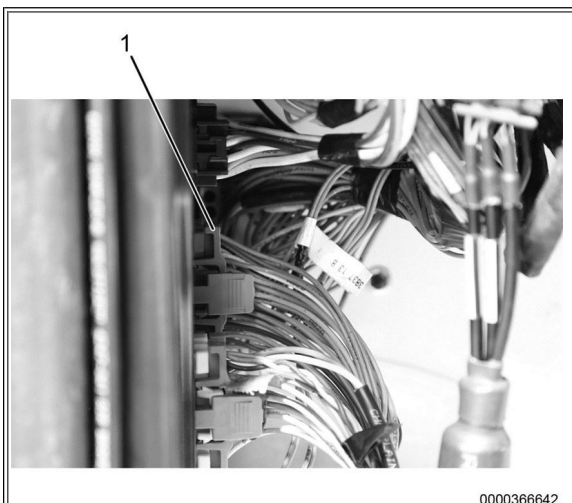

Figure 3: Body Control Module (BCM) - J3 Connector.
11. Locate RED J3 connector (Figure 3, Item 1) on vehicle BCM and disconnect.